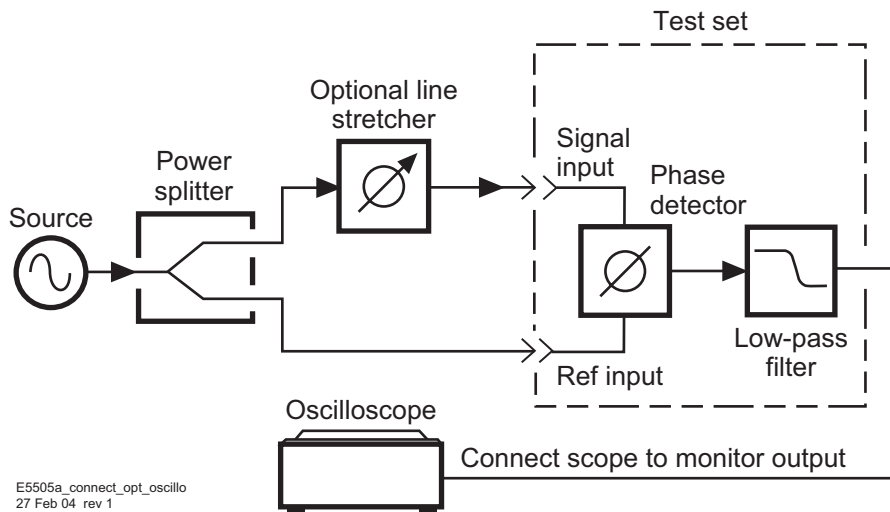

Figure 153 Connection to optional oscilloscope for determining voltage peaks
- 1 Connect circuit as per Figure 153 on page 214, and tighten all connections.